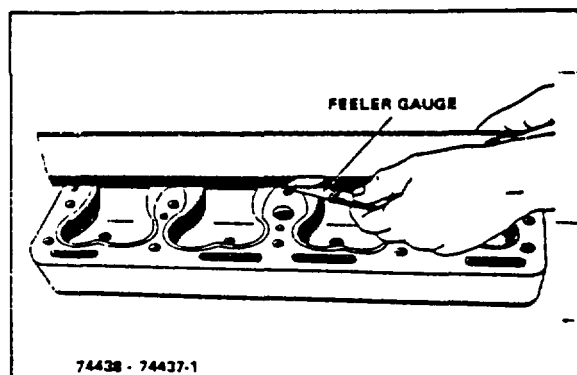

Figure 5-2. Checking Cylinder Head Flatness Lengthwise
5. Check out-of-flatness with straight edge and feeler gauge: maximum permissible is .00075" per inch of width or length (Figures 5-2 and 5-3). Thus, for a cylinder head 16" long, maximum permissible lengthwise out-of-flatness is .012". Out-of-flatness should vary gradually and uniformly from end to end and side to side. Localized depressions or high spots should not exceed .003".